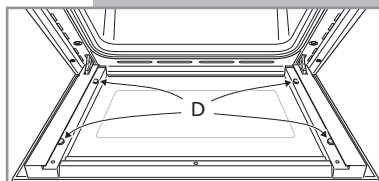

Fig. 27b
- Check the correct positioning of the no.4 (four) silicon rubbers **D** (fig. 27b).